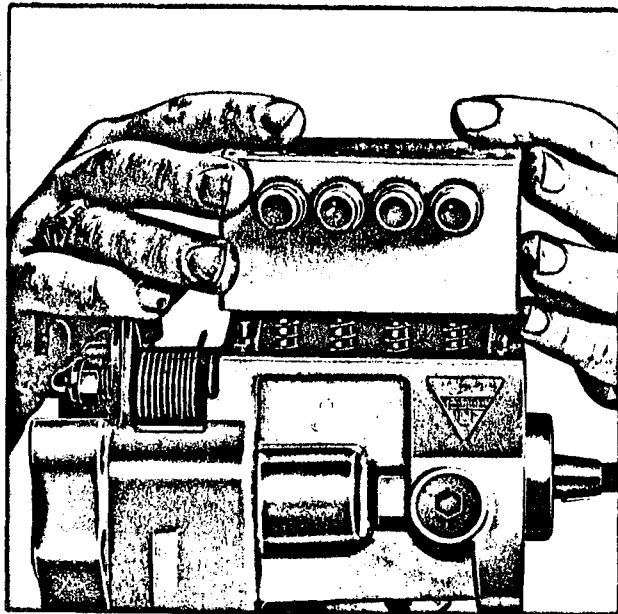

Fig. 28 - Fitting the Hydraulic Head
- Oil the gasket (53) and fit it to the pump housing;
- keeping the hydraulic head slightly slanting, so as to prevent the plungers and the springs from sliding off, fit it to the pump housing, so that the dowel pins engage with the mating holes in the hydraulic head (fig.28);
- screw in the screws (107) , provided with washers (82) , tightening them with a torque spanner set to 0.8 ± 1 mkg (5.78 to 7.23 lb/ft.);